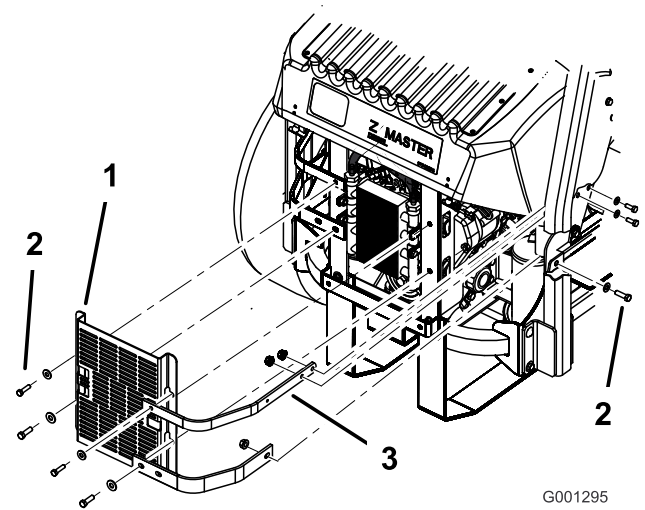

Figure 64
3. Remove the 4 bolts holding the oil cooler shield to the rear frame (Figure 64).
4. Remove the 3 bolts holding the engine straps to the side of the machine (Figure 64).
12. Install the oil cooler shield and engine straps to the rear frame with the 4 bolts previously removed (Figure 64).
13. Install the engine straps to the side of the machine (Figure 64).